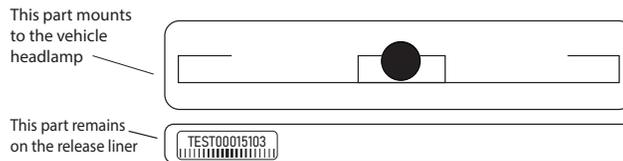

Figure 2 – Remove tag from liner
**Note: Only the upper part of the tag should be mounted to the headlamp. The lower part with the barcode should remain on the release liner (Figure 2).**